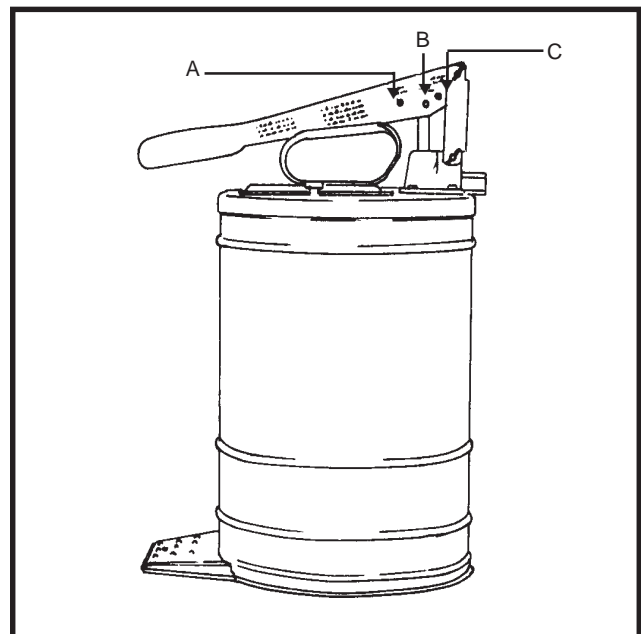

Figure 17: Lever Positions for Lubricants in Bucket Pump
2. Set lever at appropriate position (See Figure 17).